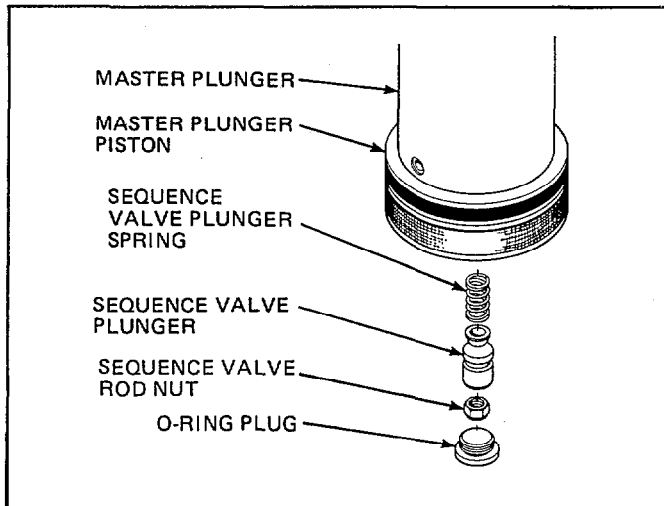

Figure 10. Sequence Valve Plunger Assembly
3. Before removing the master plunger piston first remove the O-ring plug at the bottom of the piston. Use a socket wrench to remove the sequence valve rod nut shown in Figure 10.